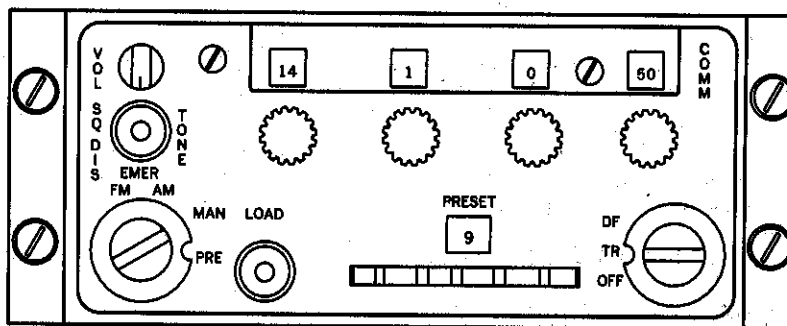

Figure 1. AN/ARC-186(V) Radio Set Control Modified By TCTO 1H-3-726
1. PURPOSE. To provide information for helicopters modified by TO 1H-3-726, Installation of AN/ARC-186(V) VHF AM/FM Radio.
- ✓ a. Pages 1-24 and 1-25, figures 1-17 and 1-18 are amended to add COMM and VHF control panel views as shown in Figure 1 of this supplement.